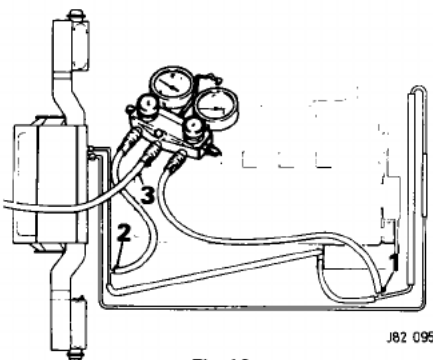

Fig 42
- Evacuate the system with hoses (1 & 2, Fig. 42) connected as shown.
- Connect the centre hose of the charging manifold (3, Fig. 42) to a supply of refrigerant. The supply available must be at least 3.3 kg (7.2 lb) weight.